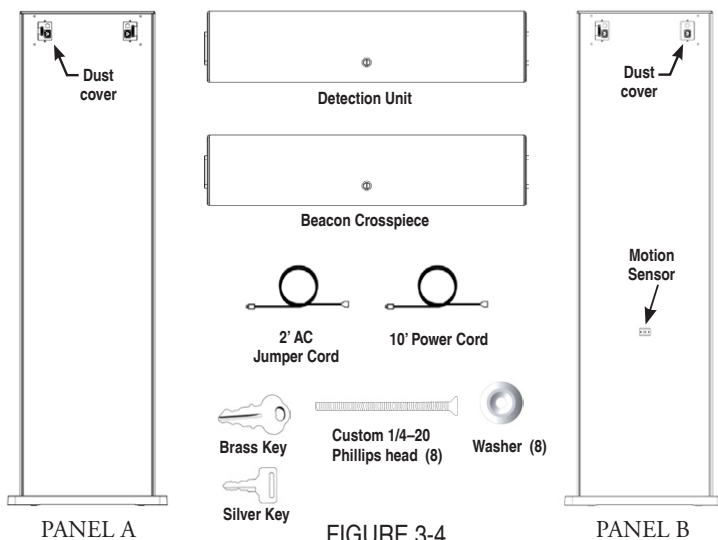

FIGURE 3-4
2. Arrange the major components as shown in Figure 3-4.